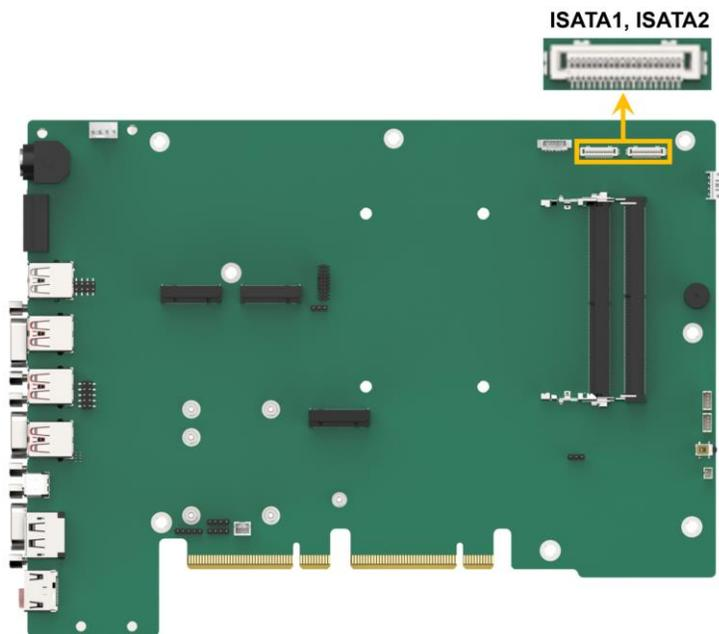

Figure 4-8: SATA 6Gb/s Connectors Location
- CN Location:** See **Figure 4-8**